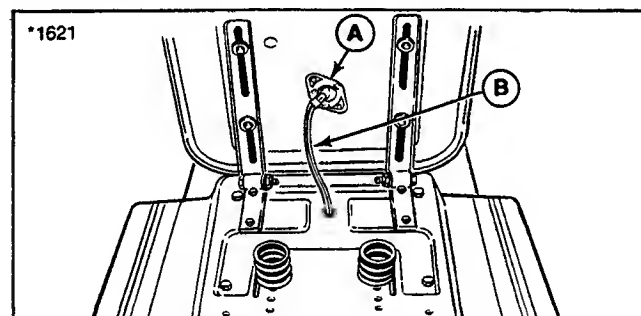

Figure 7C.
Check the seat switch (A, figure 7C) every fall and spring with the following three tests. Make sure the wiring harness (B) is securely plugged into the switch.